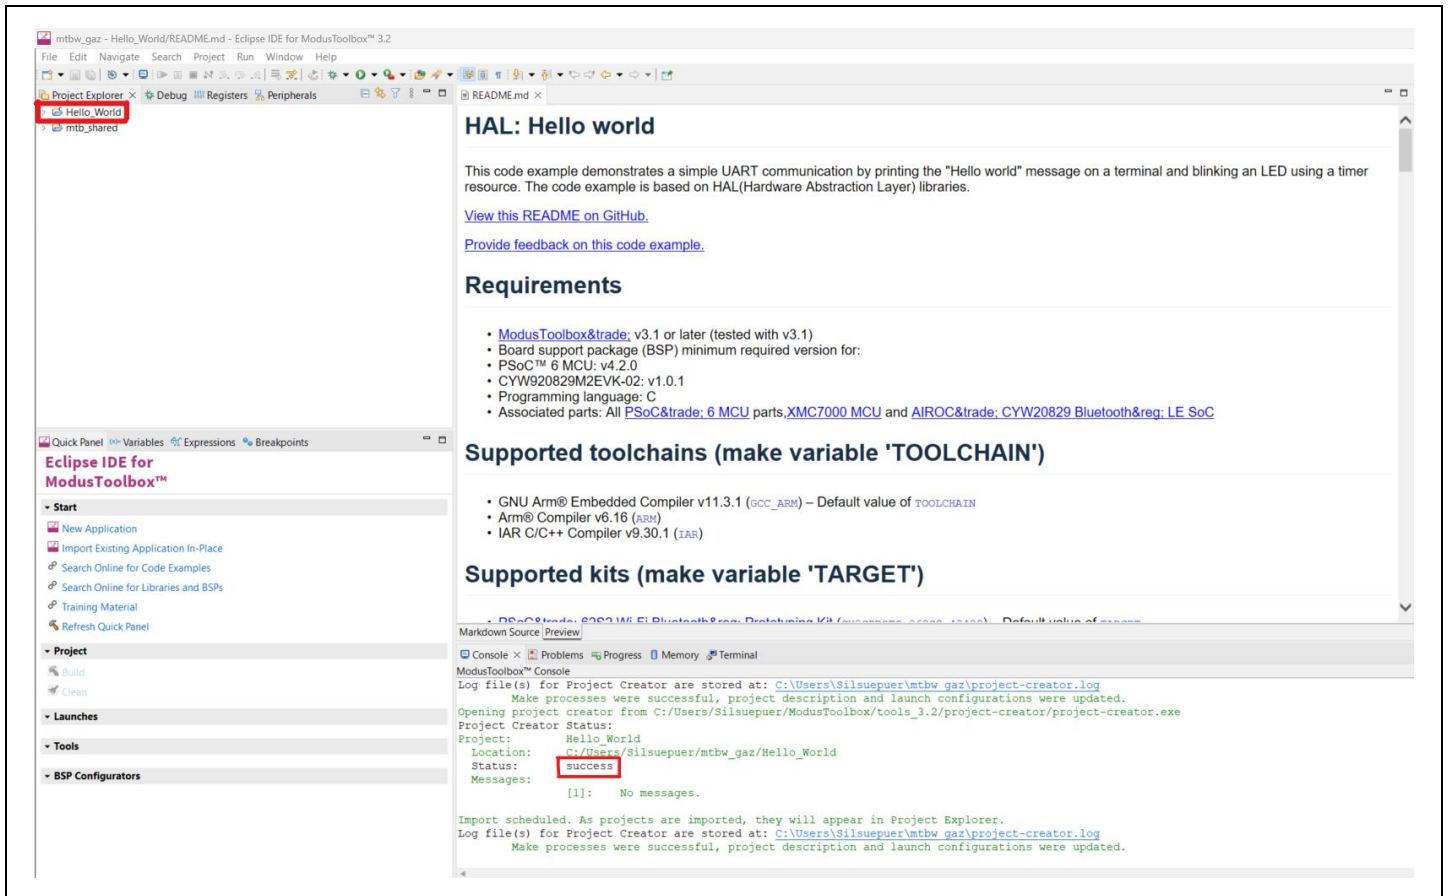

Figure 18 Importing a new project
6. Wait for the import to complete. If no error message appears, the project will be available in your workspace (project explorer). You can also see the status of the project import from the console output as shown in Figure 18.